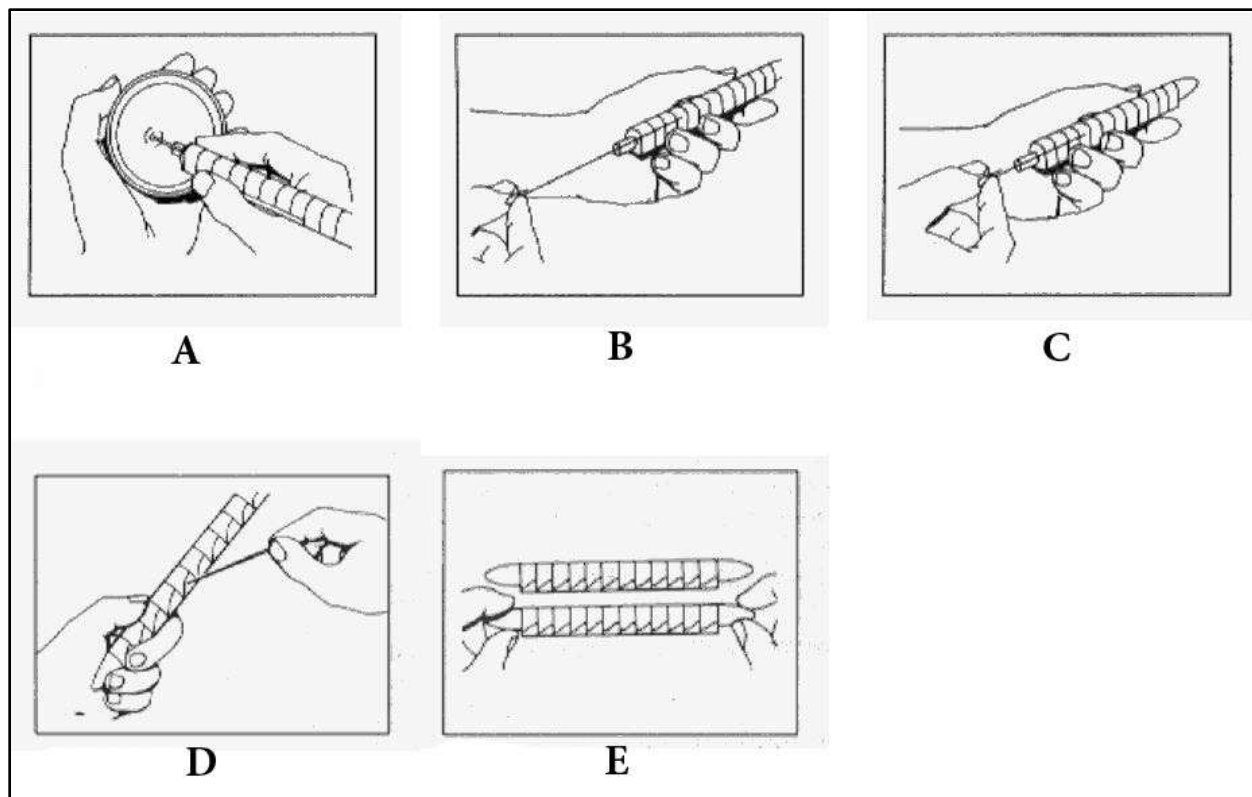

Figure 1: How to perform the test in 5 steps is shown schematically.
For GNB-API Test, bacteria grown on McConkey Agar (MAC), Eosin Methylene Blue (EMB), Salmonella Shigella (SS) Agar, Hecton Enteric Agar (HE) or non-selective agar media can be used. The culture used for inoculation should be at least 18 hours, but generally not longer than 48 hours. Ensure that the colony to be detected by GNB-API is a pure culture of Gram-negative bacilli. The method of doing the work according to Figure 1 is as follows:
4. Pick one or two single colonies directly with the tip of the wire (Figure 1-A). A visible amount of inoculation should be seen at the tip and side of the wire. Avoid touching the agar with the wire.
5. Pull out the GNB-API first by twisting the wire so that the wire is inoculated all 10 compartments by applying a turning motion (Figure 1-B).
7. Then align the cut place of the wire (near the end of the wire) with the opening of the pipe and bend the wire at the cut place (Figure 1-C).
8. With the broken off part of the wire, make holes in the air inlet of the last six compartments (Arabinose, Mannose, Lactose, Malonate, Urea, and Citrate) (Figure 1-D). Aerobic growth takes place in these chambers. Then close both lids.
9. Incubate at 35-37°C for 18-24 hours with the GNB-API on a flat surface or in an upright position. Allow air to circulate between the incubated tubes (Figure 1-E).